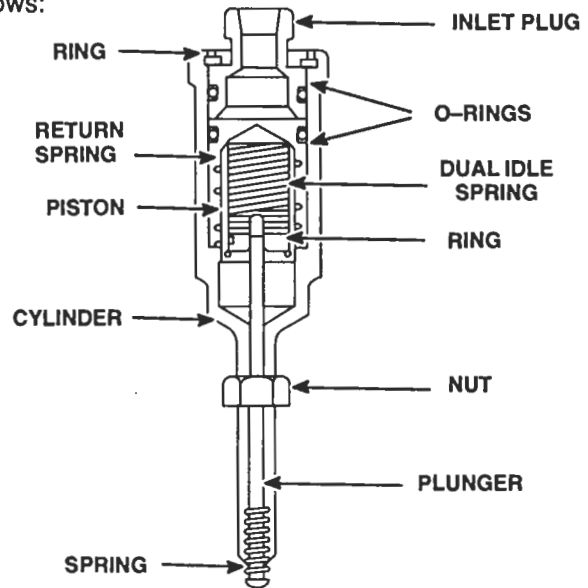

Figure 2. Fast Idle Cylinder
2. Disassemble the fast idle cylinder (Figure 2.) as follows: